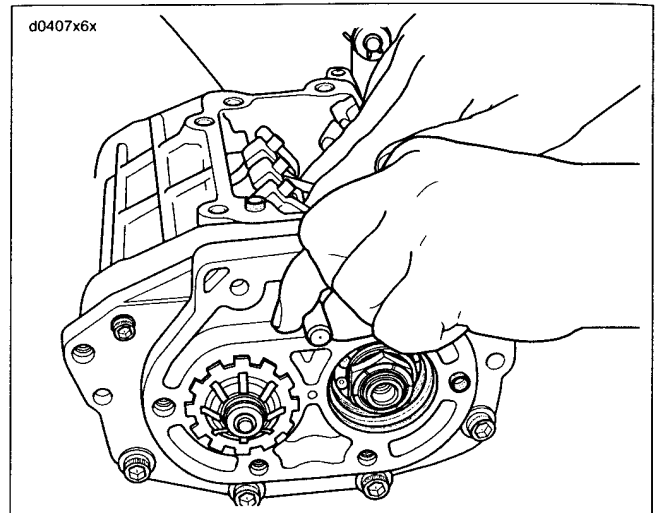

Figure 7-13. Fork Shaft
3. See Figure 7-13. Slide fork shaft out through the hole and remove the shifter forks. Continue with CLEANING AND INSPECTION below.
3. See Figure 7-13. Slide fork shaft through the transmission case hole, through the forks and into the hole in the opposite side of the case.